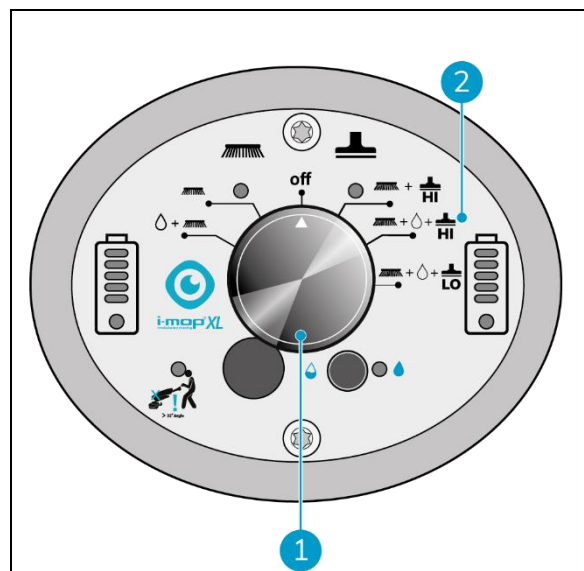

Figure 27
The angle warning indicator will flash at the blue circled area as soon the operator will go below 32 degrees. The indicator light will turn on and the water recovery will be paused. When the handle is raised above 32 degrees the vac motor will restart after 5 seconds. (figure 27)
2. Use the i-mop XXL Pro main switch (Figure 27, pos. 1) and choose MODE 4 Brush + Water/Cleaning solution + Dry vacuum (Figure 27, pos. 2).